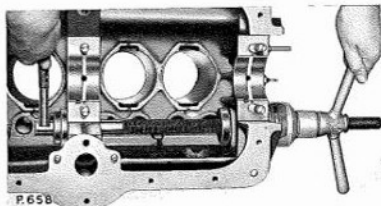

Fig. B.31. Removing the centre camshaft bearing, using the Churchill Tool 32 in conjunction with the adaptor sets R.G.32-3 and R.G.32-4
- (a) The centre camshaft bearing is removed using the adaptor set R.G. 32-4, in conjunction with the adaptor set R.G. 32-3 (Code 3 only), and the main tool, noting that the centraliser, R.G. 32-3, Code 3, should be located in the front bearing, and the adaptor, R.G. 32-4, Code 7, in the centre bearing. The spigots on both of these removal pads must face forward towards the wingnut of the main tool, i.e., pads located in the rear of the respective bearings. Assemble the main tool and feed the centre screw of the tool from the front of the engine through both the centraliser and the adaptor until it is possible to assemble the "Cee" washer and tommy bar to the centre screw (see Fig. B.31). Holding the tommy bar stationary by hand, turn the wingnut of the main tool and withdraw the centre bearing.